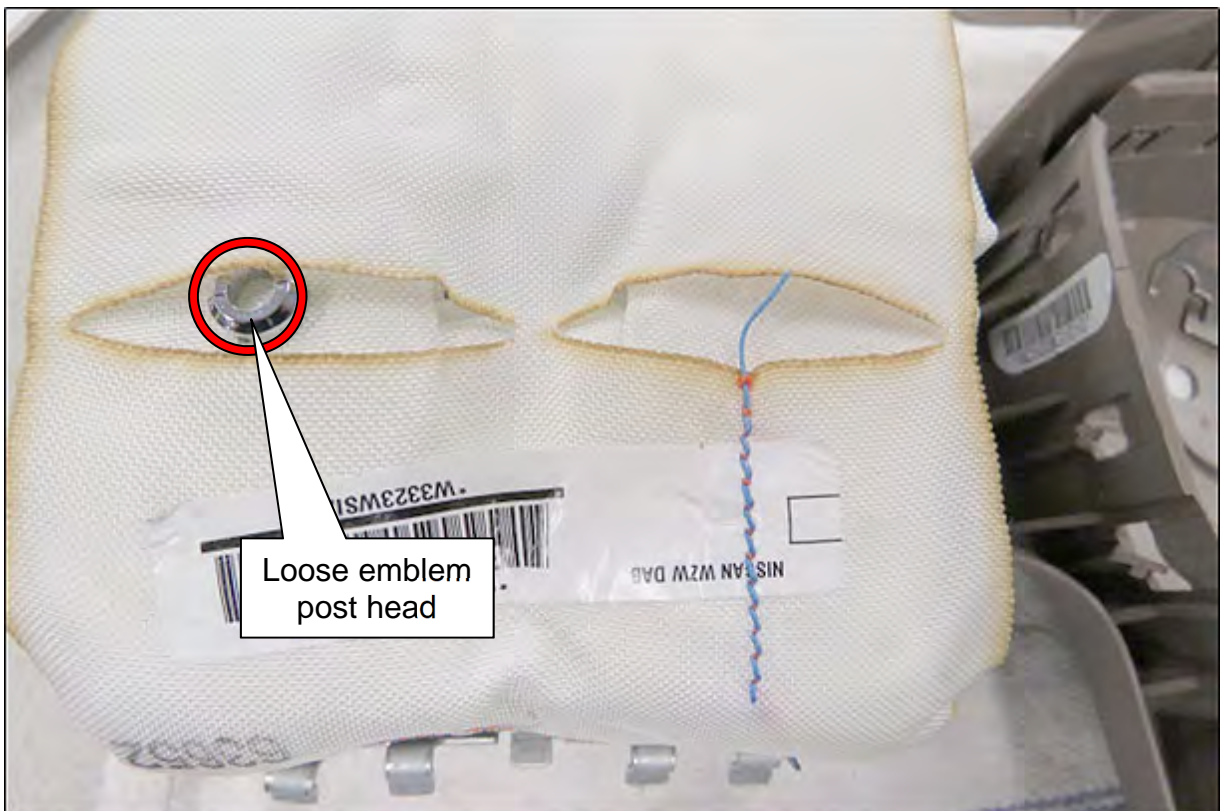

Figure 22
22. Locate the Air Bag Cover emblem's metal clip and post heads shown in Figure 20, and if found to be loose (Figure 21 and Figure 22) remove all loose components.